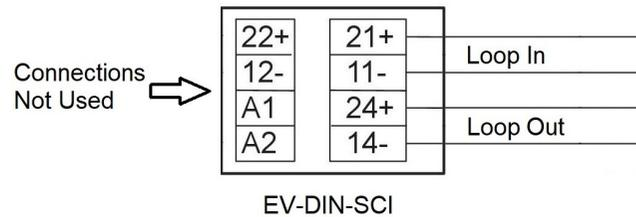

Figure 1
3. The device can be used as an inline Loop Isolator, as shown in Figure 1 below.